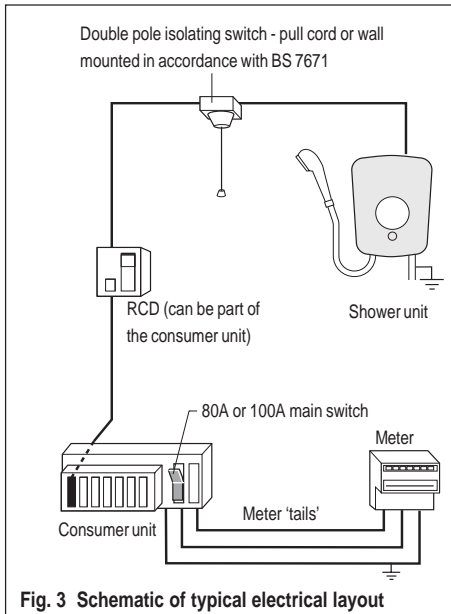

Fig. 3 Schematic of typical electrical layout
4.2.3 For typical electrical installation, see fig. 3.